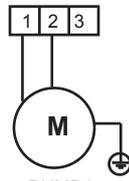

Fig. 6-10
- Using the appropriate cable, connected the pump cable to the terminals as shown in Fig.6-10.